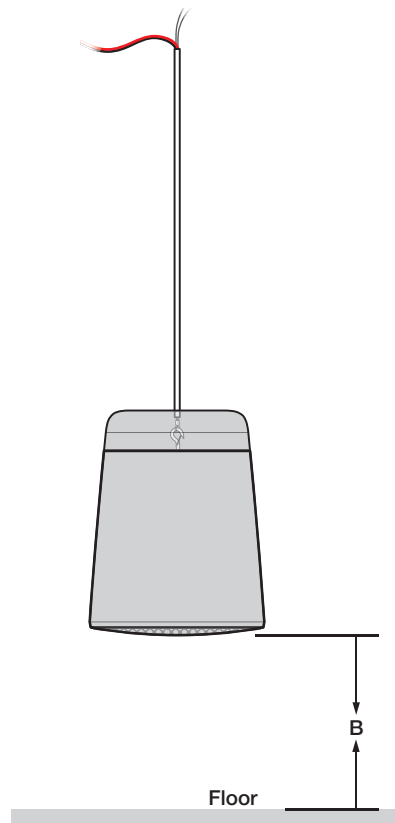

Figure 5. SF 28PT Speaker Height
3. Determine the desired height (**B**) from the bottom of the speaker above the floor (see **figure 5** on the next page).